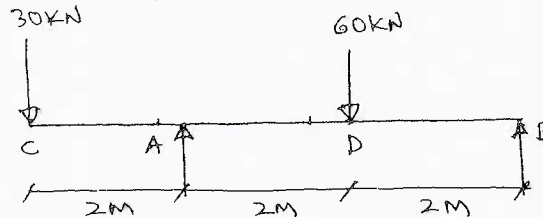

Fig.Q.6(b)
b. Determine the deflection under the loads for an overhanging beam carrying loads as shown in the Fig.Q.6(b). Take $E = 200 \text{ GPa}$, $I = 45 \times 10^6 \text{ mm}^4$. (12 Marks)